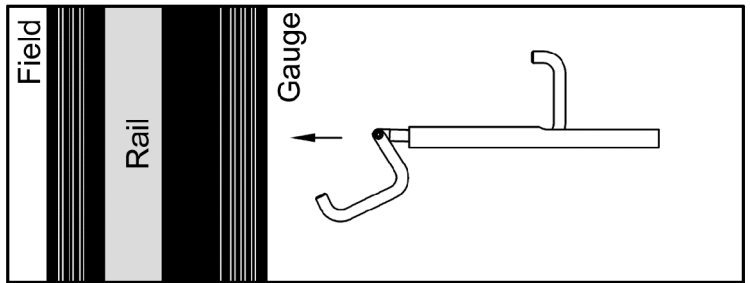

Figure 3
- 3 Slide clamp body under the rail from the gauge side (Fig. 3)